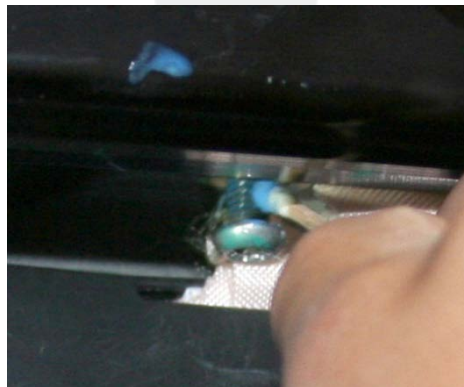

Figure 45 (LH side shown)
2. Use a cotton swab or similar item to apply Loctite 242 Threadlock to all exposed spacer bolt threads (Figure 45).